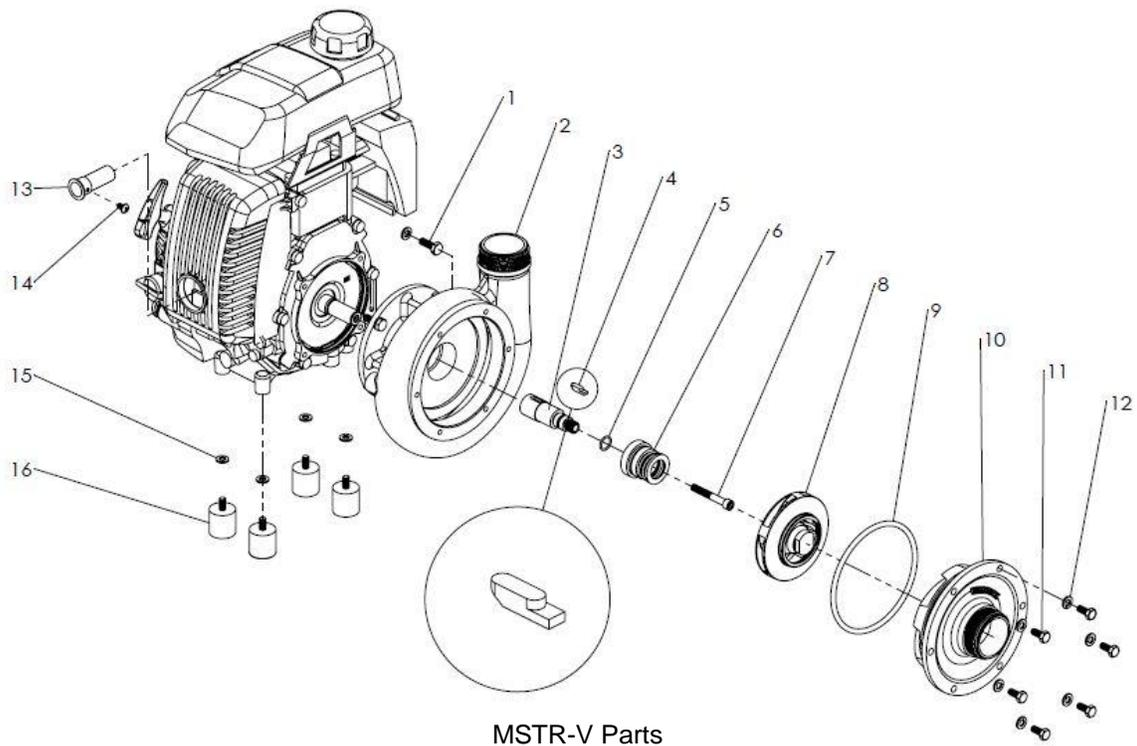

Figure 2: Exploded view of MINI-STRIKER (vehicle).
The following steps refer to figure 2
2. Install 3/16 key #4 and shaft #3 onto engine shaft. Refer to Figure 2 for correct orientation of the key.